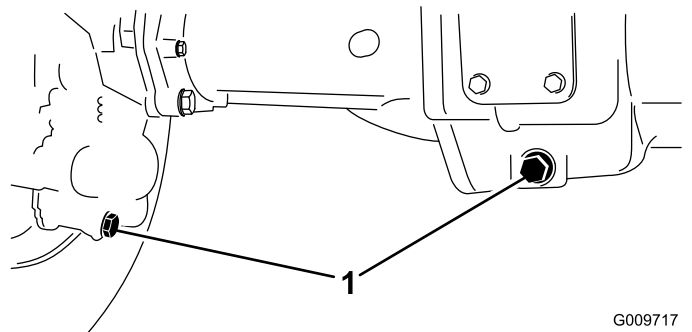

Figure 58
- Clean the area around the 3 drain plugs—1 on each end and 1 in the center (Figure 58).